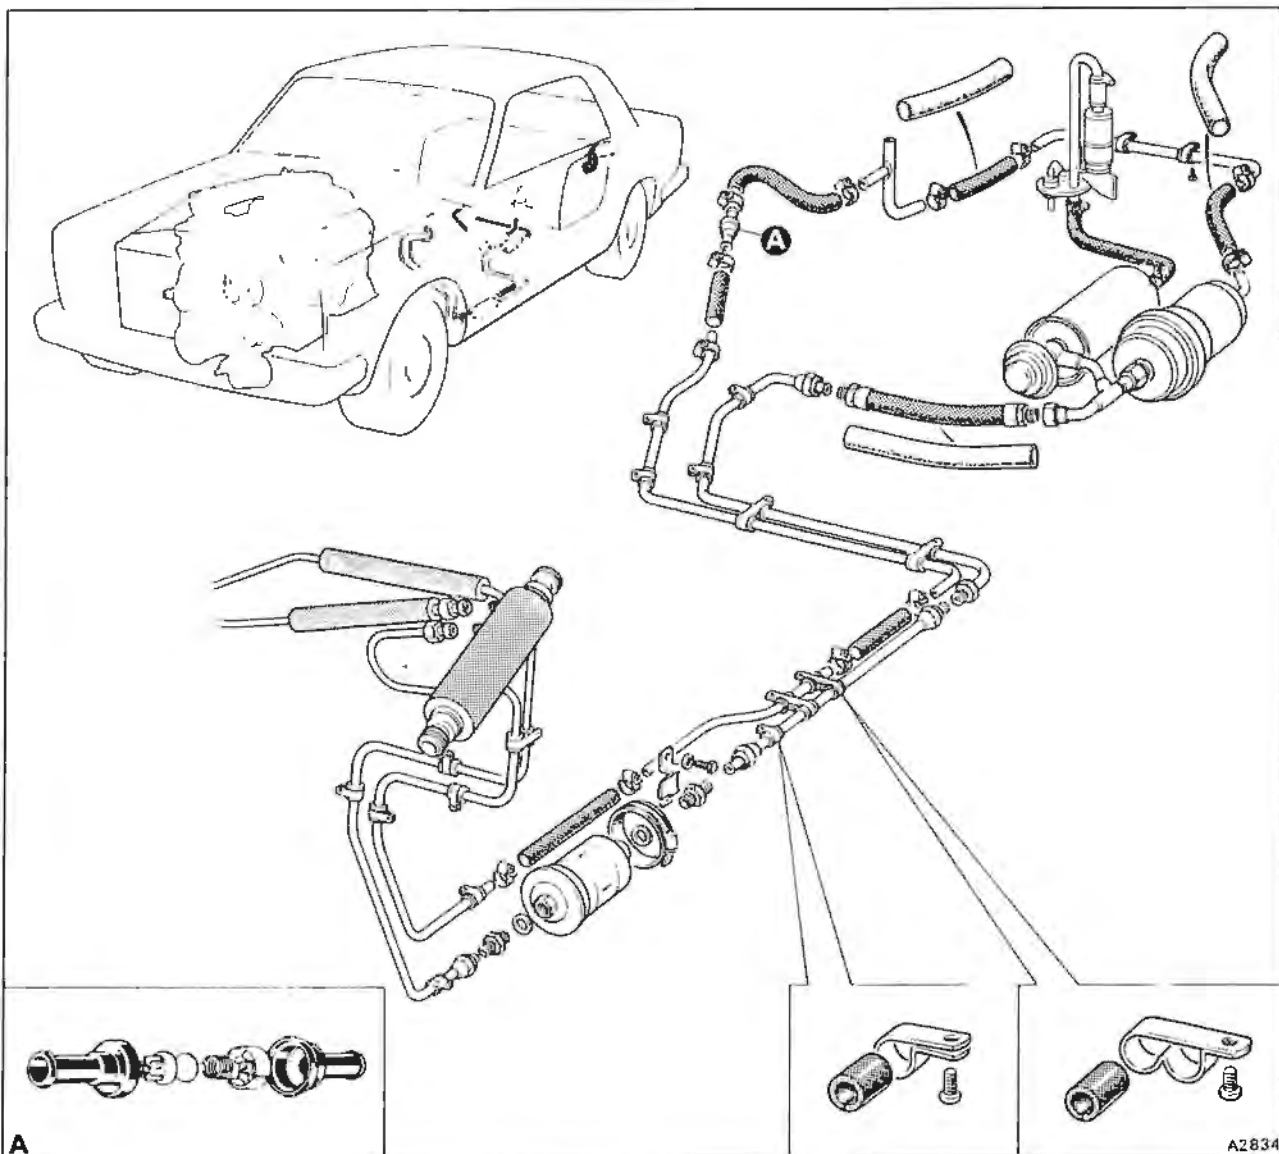

Fig. C2-6 Fuel pipes and fittings
**Fuel pump/fuel accumulator assembly – To remove and fit (see figs. C2-6 and C2-7)**
**Fuel filter – To remove and fit** (see fig. C2-6)
**Fuel lines** (see fig. C2-6)